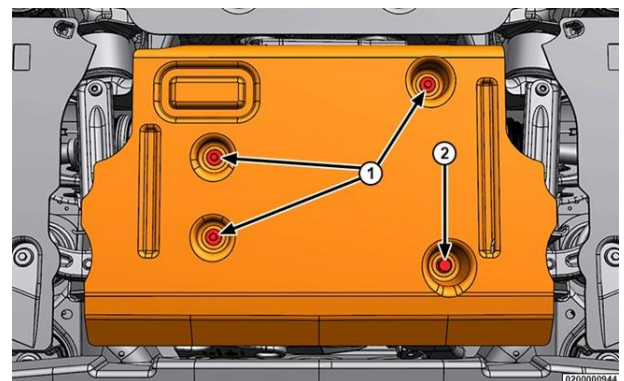

Figure 13 – Rear EDM Belly Pan
- 28. Remove the belly pan screws (Figure 13).
- 29. Remove the belly pan bolt (Figure 13).
- 30. Remove the rear EDM belly pan (Figure 13).